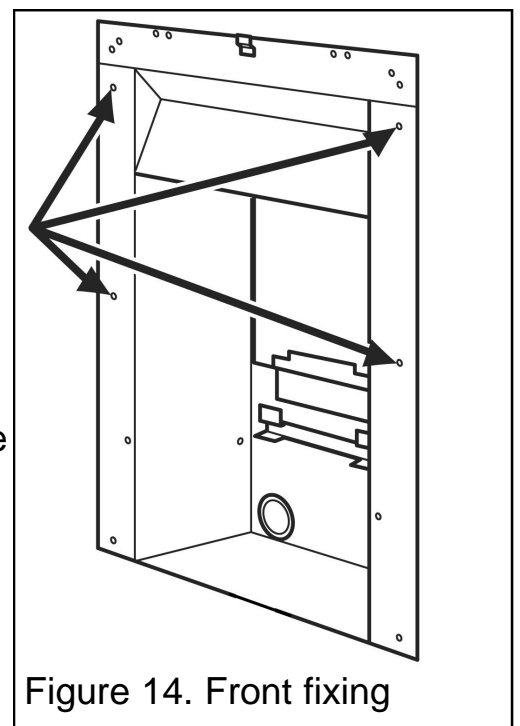

Figure 14. Front fixing
3. Mark the fireplace front surround through the four fixing holes in the side flanges of the hotbox (See figure 14).